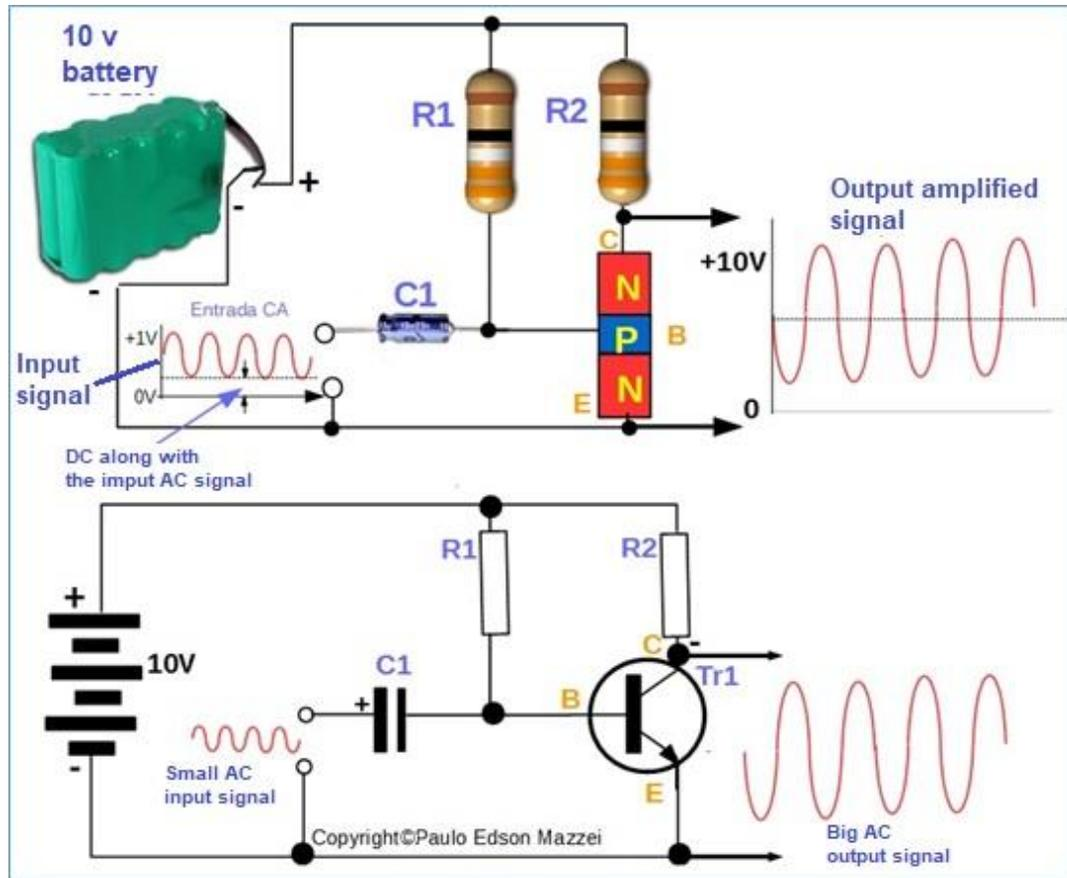

Figure 257 - Transistor as AC amplifier.
For signals that vary over time, such as sinusoidal signals, the transistor can work as an ac amplifier. Please see **figure 257**.
Please refer to **figure 257**:
- The output signal is inverted relative to the input signal. See **figure 257** drawing.